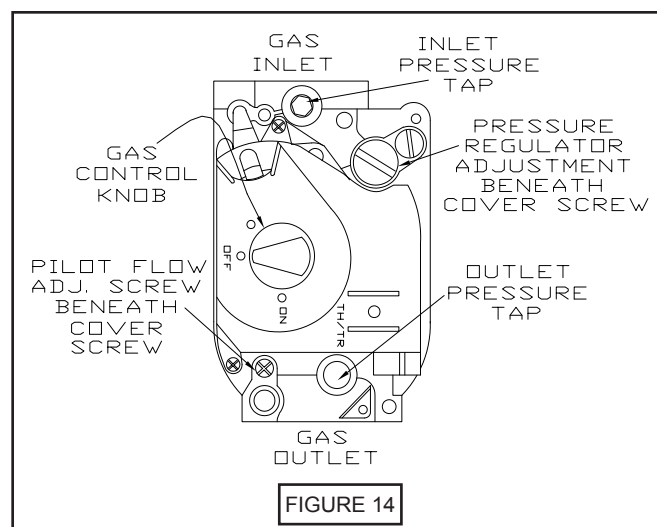

FIGURE 14
4. This appliance is equipped with an ignition device which automatically lights the pilot. Do not try to light the pilot by hand. (Figure 14)